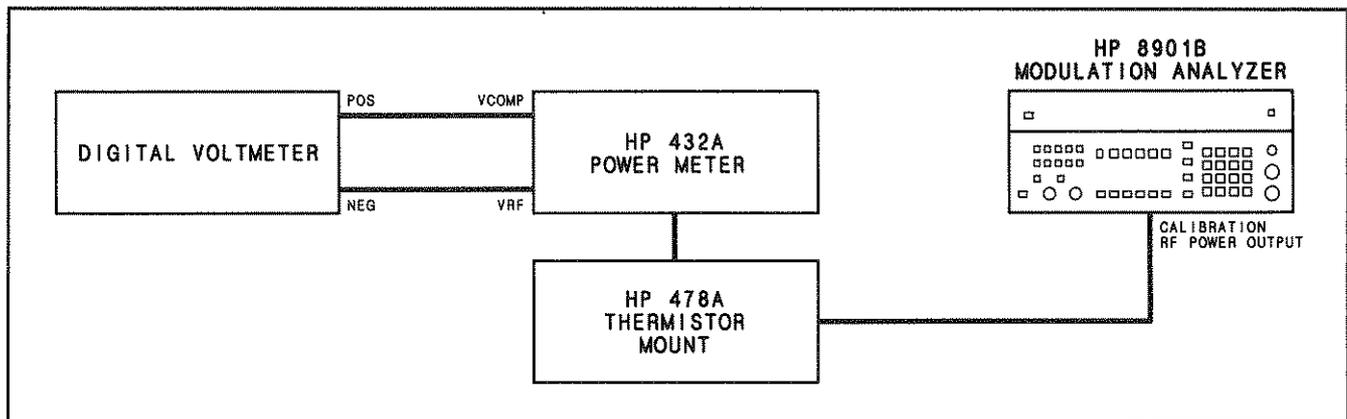

Figure 5-8. Power Reference Adjustment Test Setup
6. Connect the equipment as shown in Figure 5-8. The input of the digital voltmeter should be floating. The positive input of the voltmeter should be connected to the rear-panel VCOMP connector of the HP 432A Power Meter, the negative input to the VRF connector. Switch the equipment on and let it warm up for at least 30 minutes.
13. Reconnect the voltmeter leads as shown in Figure 5-8 (where VRF is connected to the negative input of the voltmeter).